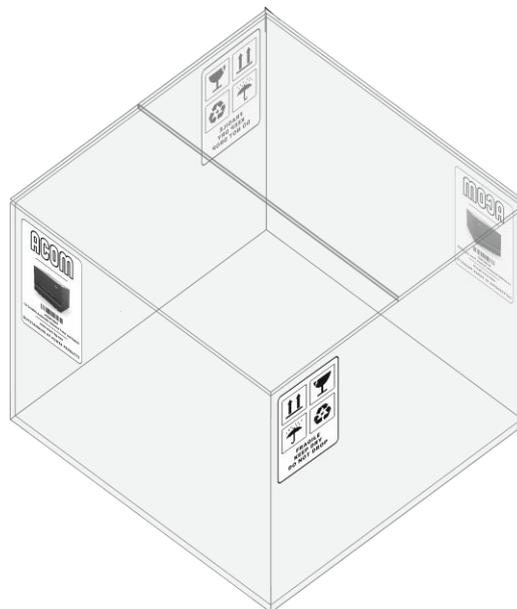
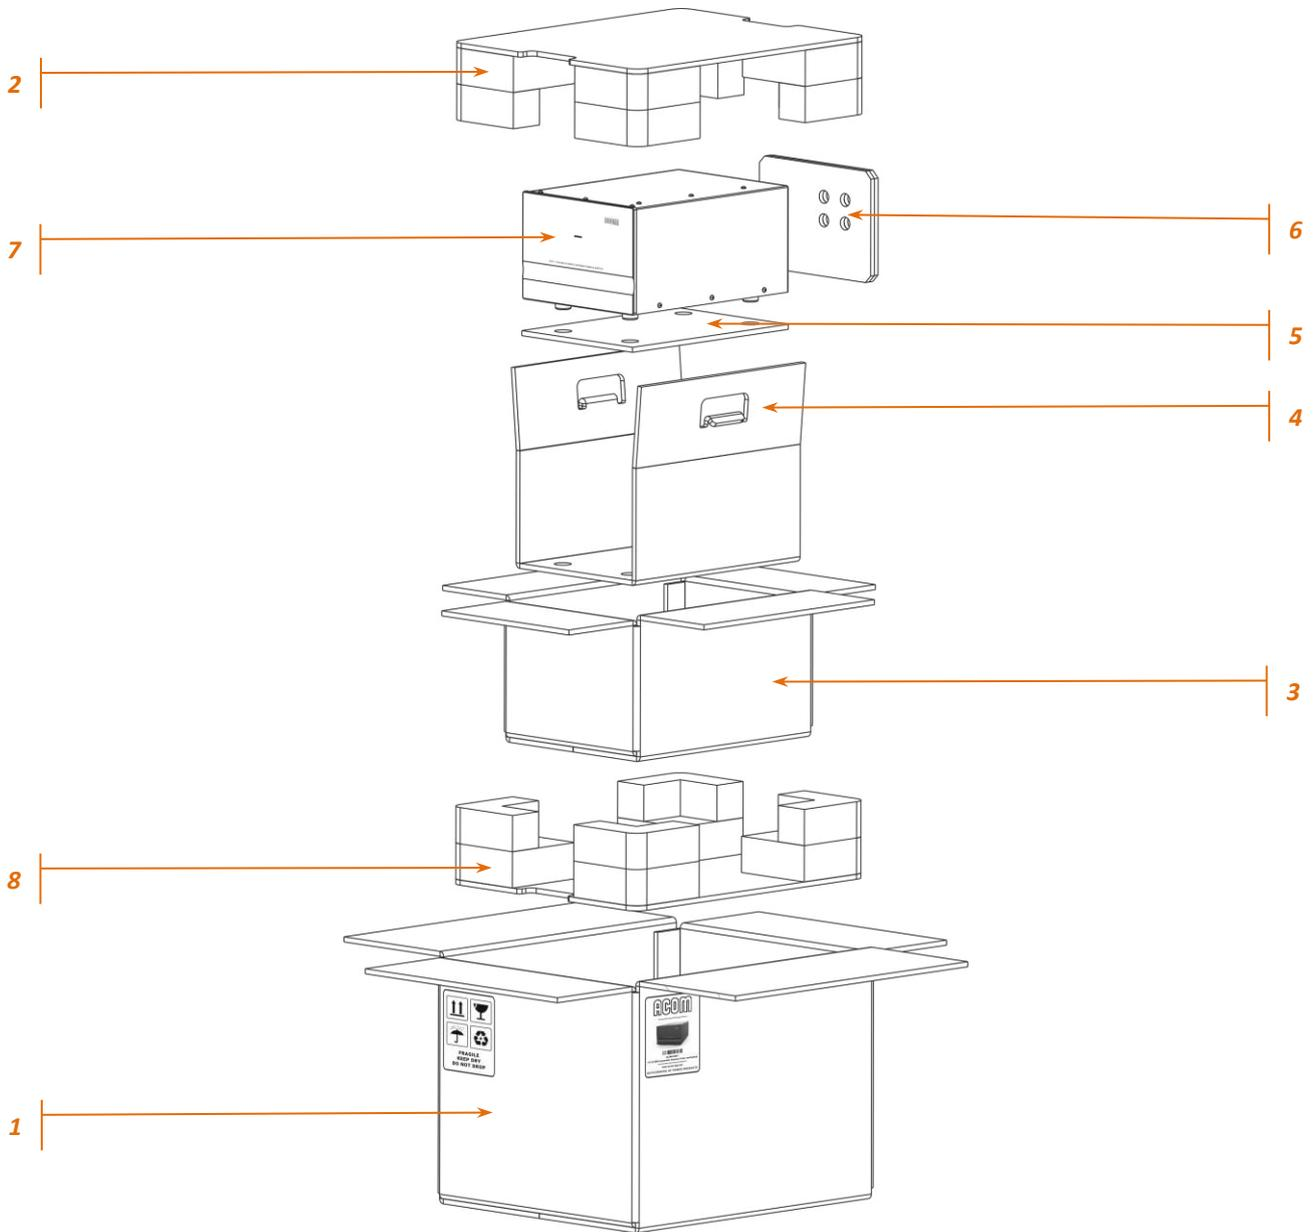

Figure 2-1 | Packaging carton (outside view)
Figure 2-2 | ACOM tuner packaged in a cardboard box
- Open the cardboard carton (see *Figure 2-1 | Packaging carton (outside view)* and *Figure 2-2 | ACOM 06AT packaged in a cardboard box*, Pos. 1);
- Take out the top secure element (see *Figure 2-2 | ACOM 06AT packaged in a cardboard box*, Pos. 2);
- Open the internal cardboard carton (see *Figure 2-2 | ACOM 06AT packaged in a cardboard box*, Pos. 3);
- Take out the tuner using handles of the middle secure element (see *Figure 2-2 | ACOM 06AT packaged in a cardboard box*, Pos. 4);
- Take out the tuner (Pos. 7) from the middle secure element and remove bottom and rear flat secure elements (see *Figure 2-2 | ACOM 06AT packaged in a cardboard box*, Pos. 5 and 6);
It is not necessary to take out the bottom secure element (see Figure 2-2 | ACOM 06AT packaged in a cardboard box, Pos. 8).